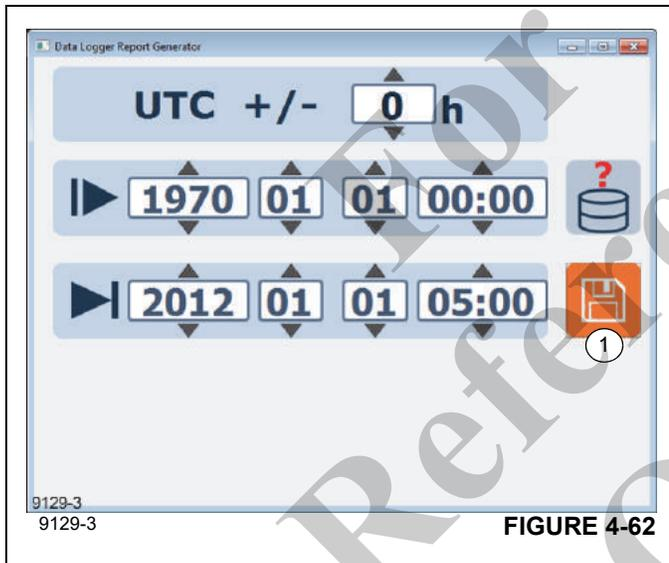

FIGURE 4-62
7. Choose the time span for the report (Figure 4-62), the default is the maximum amount of time possible. After the report is generated the disk save icon (1) will be highlighted.